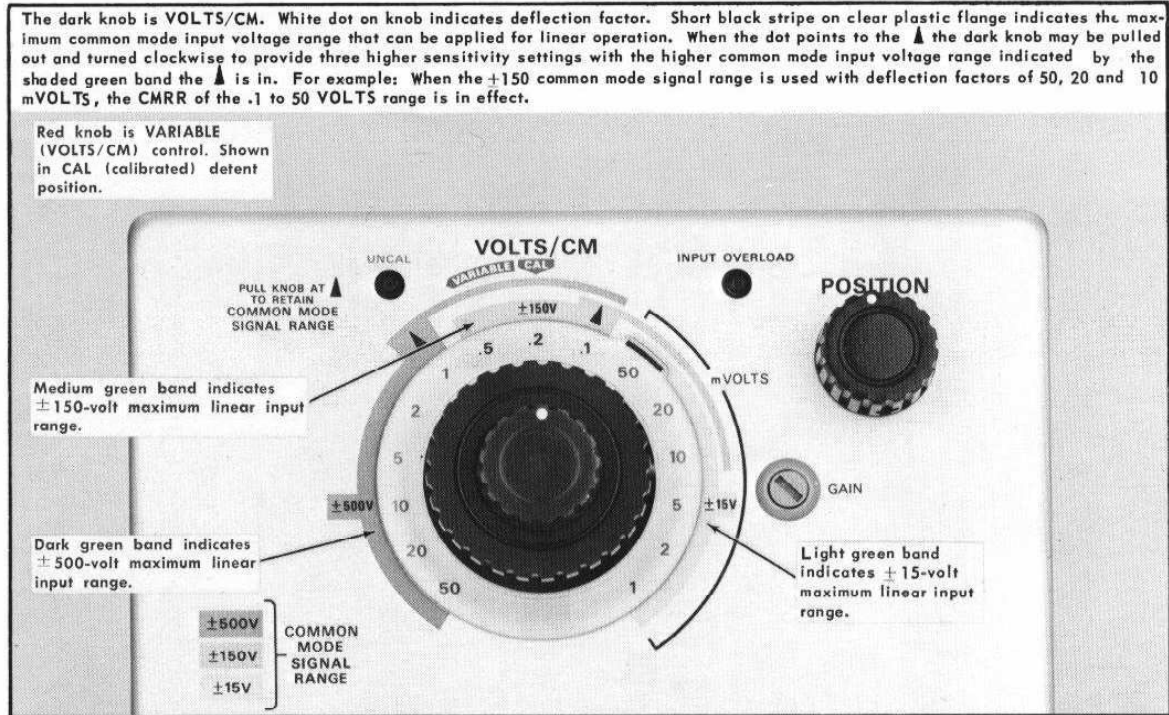

Fig. 2-8. Function of the VOLTS/CM and input range.
- VOLTS/CM** Provides 15 calibrated vertical deflection factors in 1, 2, 5 sequence from 1 mVOLT/CM to 50 VOLTS/CM and three dynamic input voltage ranges (see Fig. 2-8). All switch positions are calibrated only when the VARIABLE control is set to CAL (detent) position.